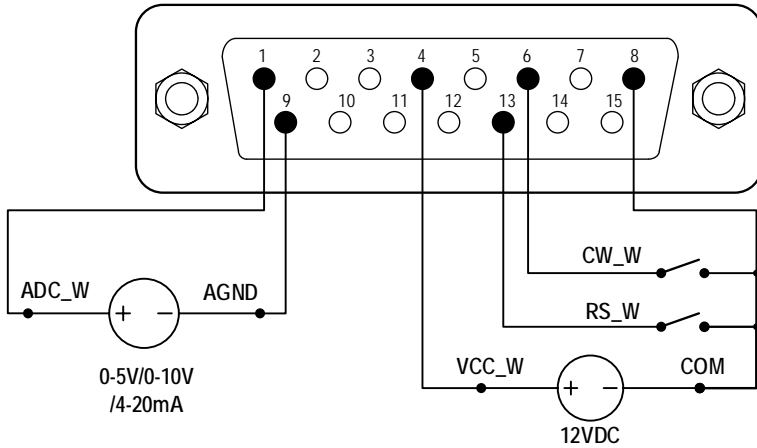

Figure 11. DB15 Wiring with External 12VDC Power Source
- 1) Switch the power off. Wire the DB15 connector as shown in Figure 11 or Figure 12. Connect it to the DB15 port on the rear of the pump.